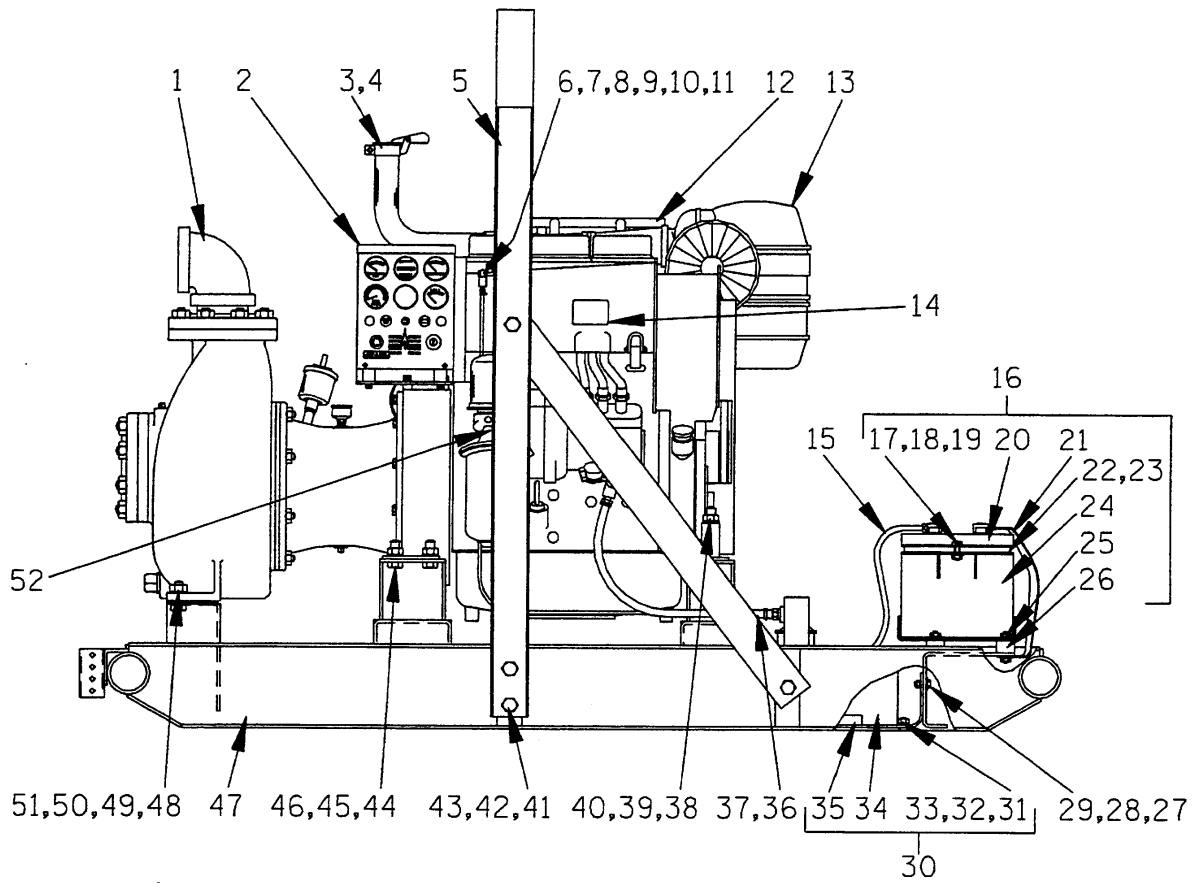

Figure 1. Pump Model 84A2-F3L
This pump requires little service due to its rugged, minimum-maintenance design. However, if it becomes necessary to inspect or replace the wearing parts, follow these instructions which are keyed to the sectional views (see Figures 1, 2 and 3) and the accompanying parts lists.
To service the impeller (2), seal assembly (3), or seal plate (36), the pump casing must be separated from the base and intermediate. See Figure 1, and remove the hardware (48, 49, 50 and 51) securing the pump casing (1) to the base (47). Tie and tag any leveling shims used under the pump casing mounting feet to ease reassembly.